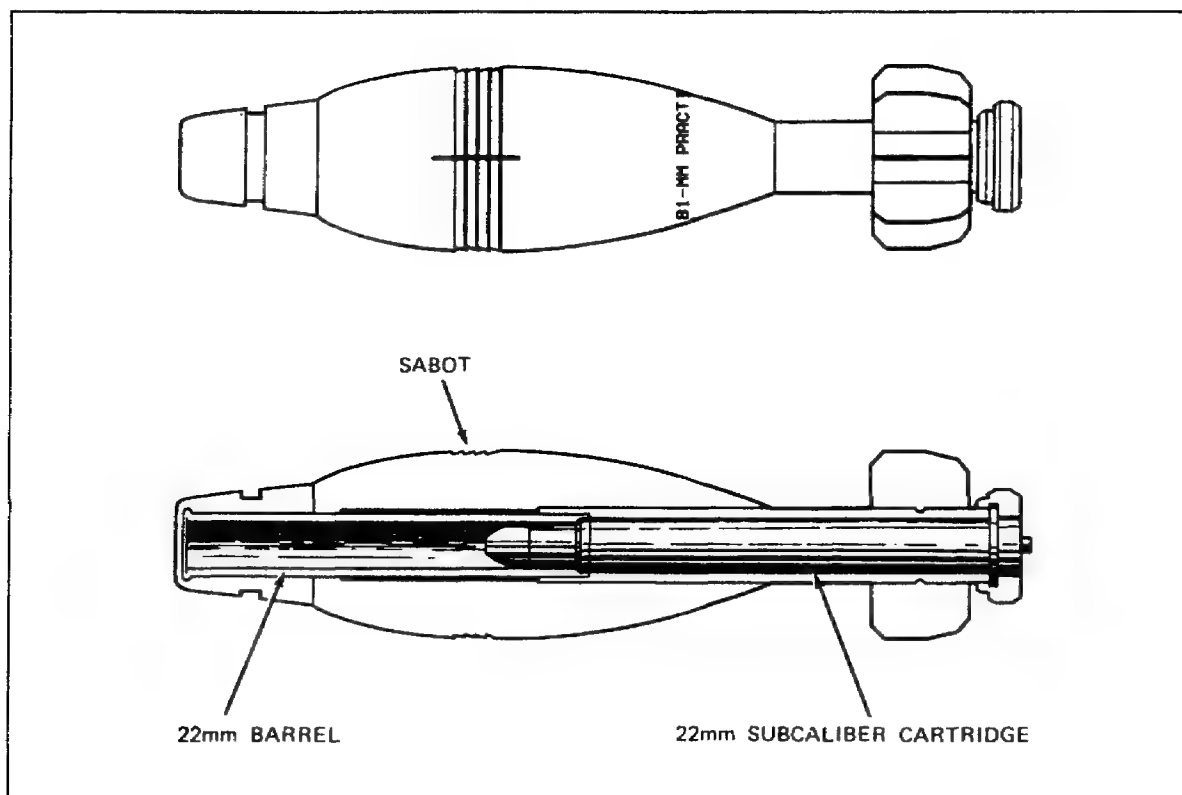

Figure 30. 81mm Target Practice Mortar Cartridge.
**81mm Target Practice and Training Mortar Ammunition.** The 81mm target practice mortar cartridge (Figure 30) is designed to fire a 22mm subcaliber practice cartridge M744, M745, M746, or M747 in any 81mm mortar. It provides realistic mortar firing practice at distances that correspond to range firing. The subcaliber